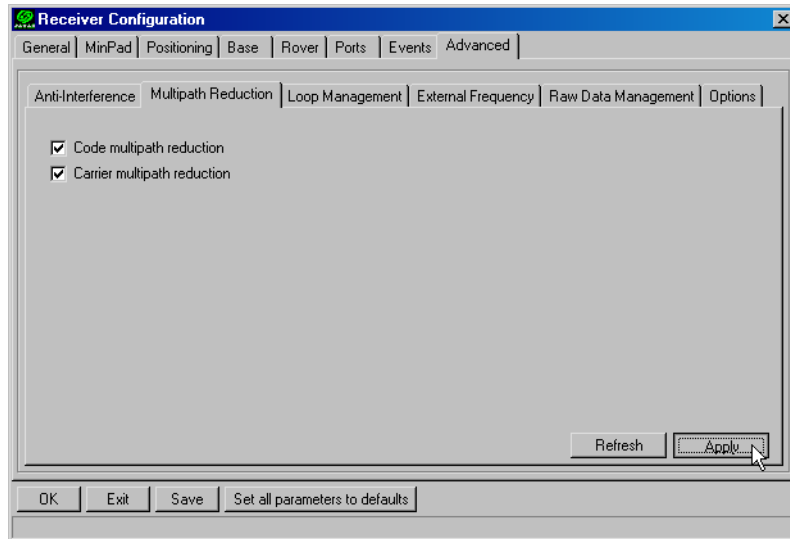

Figure 2-16. Advanced Configuration – Multipath Reduction
4. Click the **Advanced** tab on the **Receiver Configuration** screen and then click the **Multipath Reduction** subtab. Enable the following boxes, and click **Apply** (Figure 2-16 on page 51):